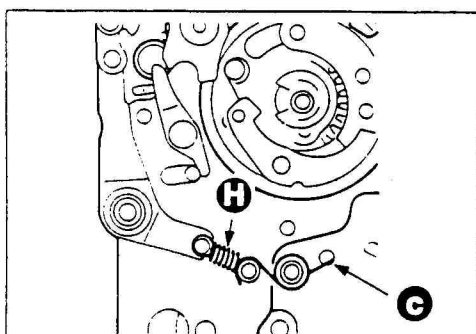

Fig.6
5. After hooking the spring ⑧, hook the spring ⑨ while pushing it down from above. (See Fig. 6.)